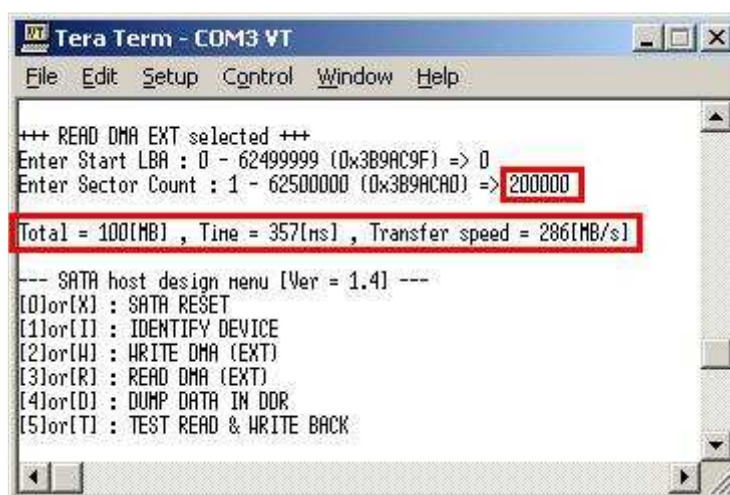

Figure 10 READ DMA (EXT) command without verify
- Sector Count: this value is used to be total transfer size in sector unit (512 byte) to read HDD/SSD. If this value is more than 65536 which is read buffer size (32 MB) value, transfer speed will be displayed as output without verify, as shown in Figure 10.